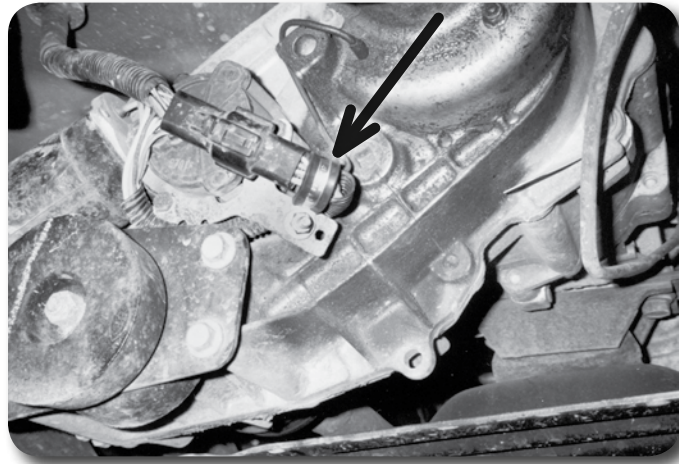

Figure 4
10. Attach wire loom clamp to the wire loom. Attach clamp to the bracket on the back of transfer case using a 1/4" x 1" bolt, two 1/4" SAE washers, and a nut **Figure 4**.